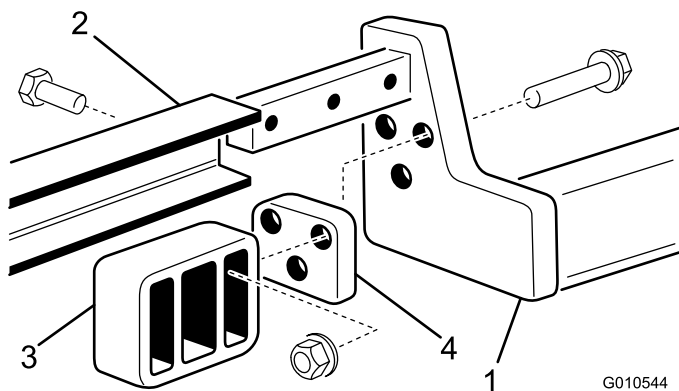

Figure 6
3. Mount a rear cradle to each lift arm with 3 bolts (3/8 x 2 inches), spacers, and flange nuts as shown in Figure 6.
4. Slide the carrier frame onto the lift arms aligning the mounting holes. Secure each side of the carrier frame to the lift arms with 3 bolts (1/2 x 1-1/2 inches). Torque the bolts to 70-80 ft-lb (95-108 N-m) (Figure 6).